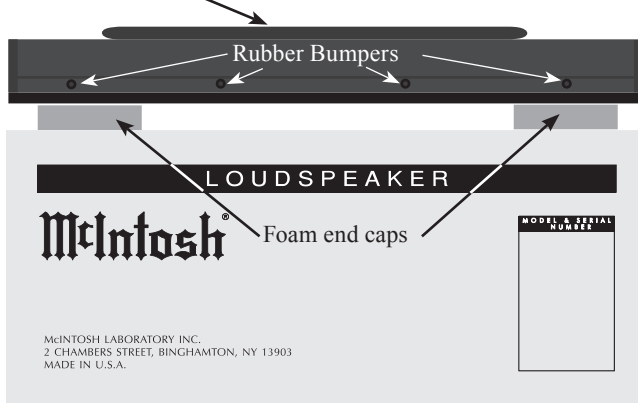

Figure 1
3. Close the top flaps of the shipping carton and place the two foam end caps on top of the carton. Refer to figure 1 for the next several steps.